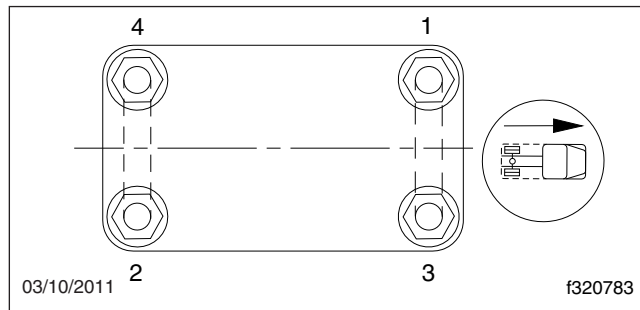

Fig. 10, Tightening Pattern for U-Bolt High Nuts
* Tighten in a diagonal pattern as shown in **Fig. 10**.